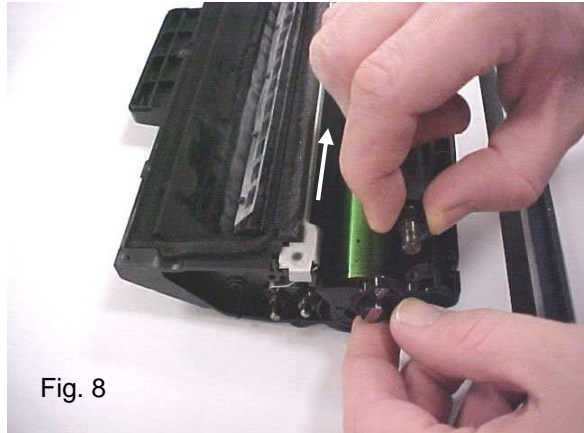

Fig. 6
6. Separate the cartridge top from the bottom and clean both with compressed air or vacuum. (Fig. 6).